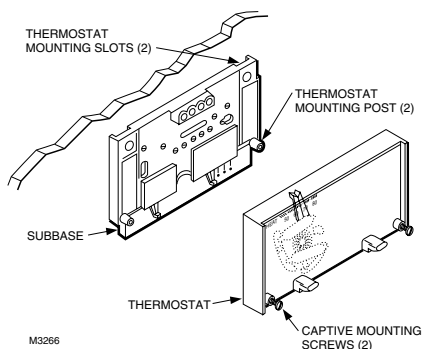

Fig. 13. Mounting thermostat on subbase.
5. Align the two captive mounting screws in the thermostat base with the posts on the subbase. See Fig. 13. Tighten both screws. *Do not overtighten screws* or damage to subbase posts can result.